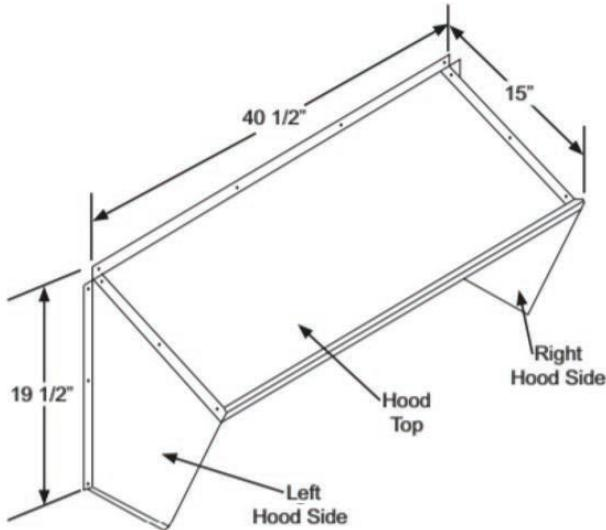

Fig. 36 — CRBARHOD001A00 Hood Sides and Top
5. Using the provided hardware, screw the CRBARDH001A00 hood sides and top together (see Fig. 36).